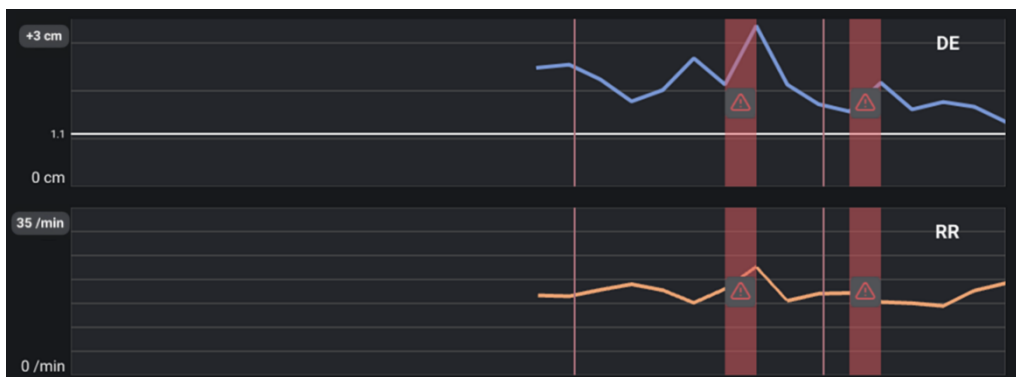

Figure 28. Warning messages in the Graph view of the results.
- In the Graph view of the results, the median DE and RR values affected by noise in the measurements are indicated by a warning symbol (⚠) in a red field that outlines the data in the affected minute (Figure 28).